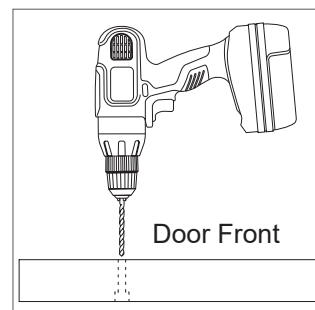

Figure 5
8. Turn the door over, returning it to the face-up position. Drill all the way through the pilot holes using a drill with a 3/8" drill bit (Figure 5).